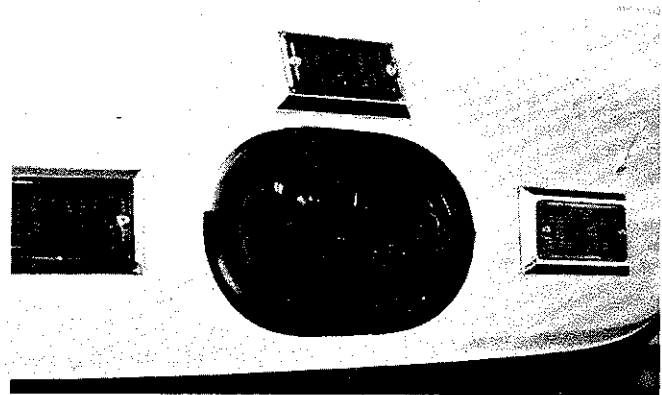

Figure 2-14. CCTV Camera Port
1. **Power and Sound Controls** — These controls, shown in figure 2-14 and described in the Cassette Deck section, are used in the radio mode as well. (See preceding section on Controls, paragraphs 2 through 5, for power **ON/OFF**, volume balance, fader, bass and treble controls, and paragraph 11 for the loudness **LD** control. The **FM/Stereo** light (18) will go **ON** when stereo radio is **ON**.
2. **To Select waveband** — Press **IN** the **AM/FM** button (9) to get **FM**, and press to release for **AM** (button **out**). The appropriate **AM** or **FM** light (21 or 22) on the left side of the glass dial will indicate the selected waveband.
- CCTV camera, located in the rear of the coach, figure 2-14.